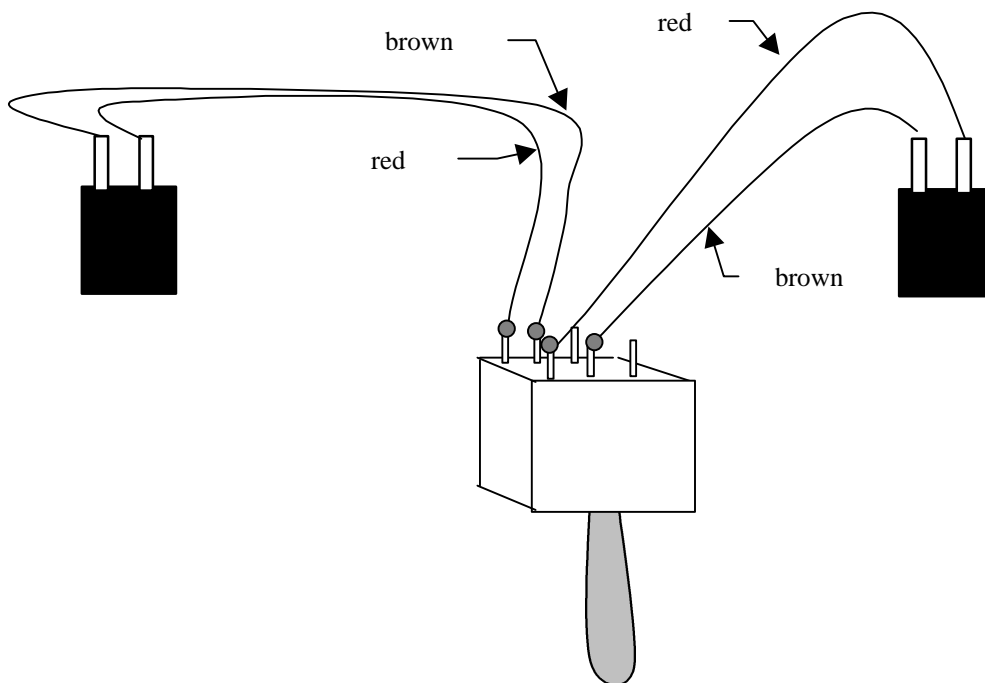

Figure 22 Wiring the Power-On and Servo-Power connectors to the DPDT switch.
3. Tin and solder the cables to the DPDT switch as show in Figure 22.